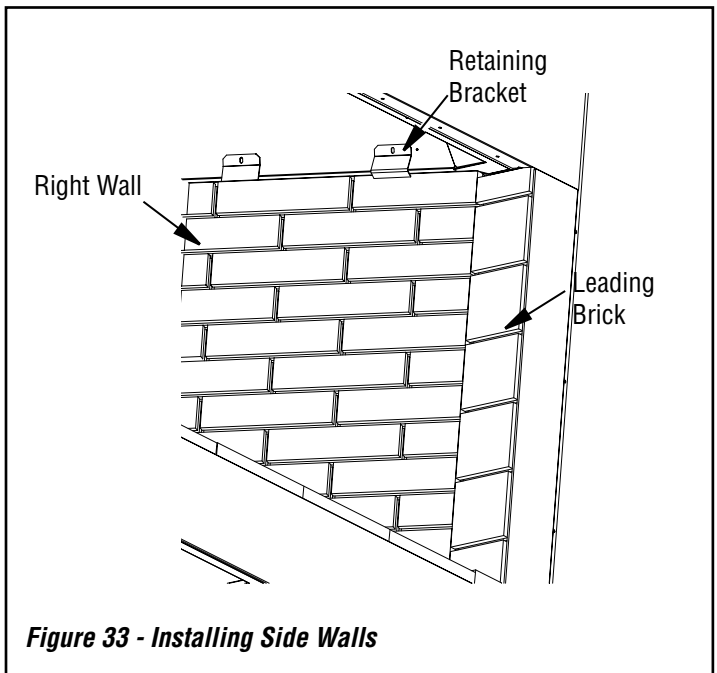

Figure 33 - Installing Side Walls
4. Secure the firebrick wall using 2 of the retainers provided. The bracket will slip underneath the metal lip on the top of the wall and screw into the inner dome of the fireplace (**Figure 33**).